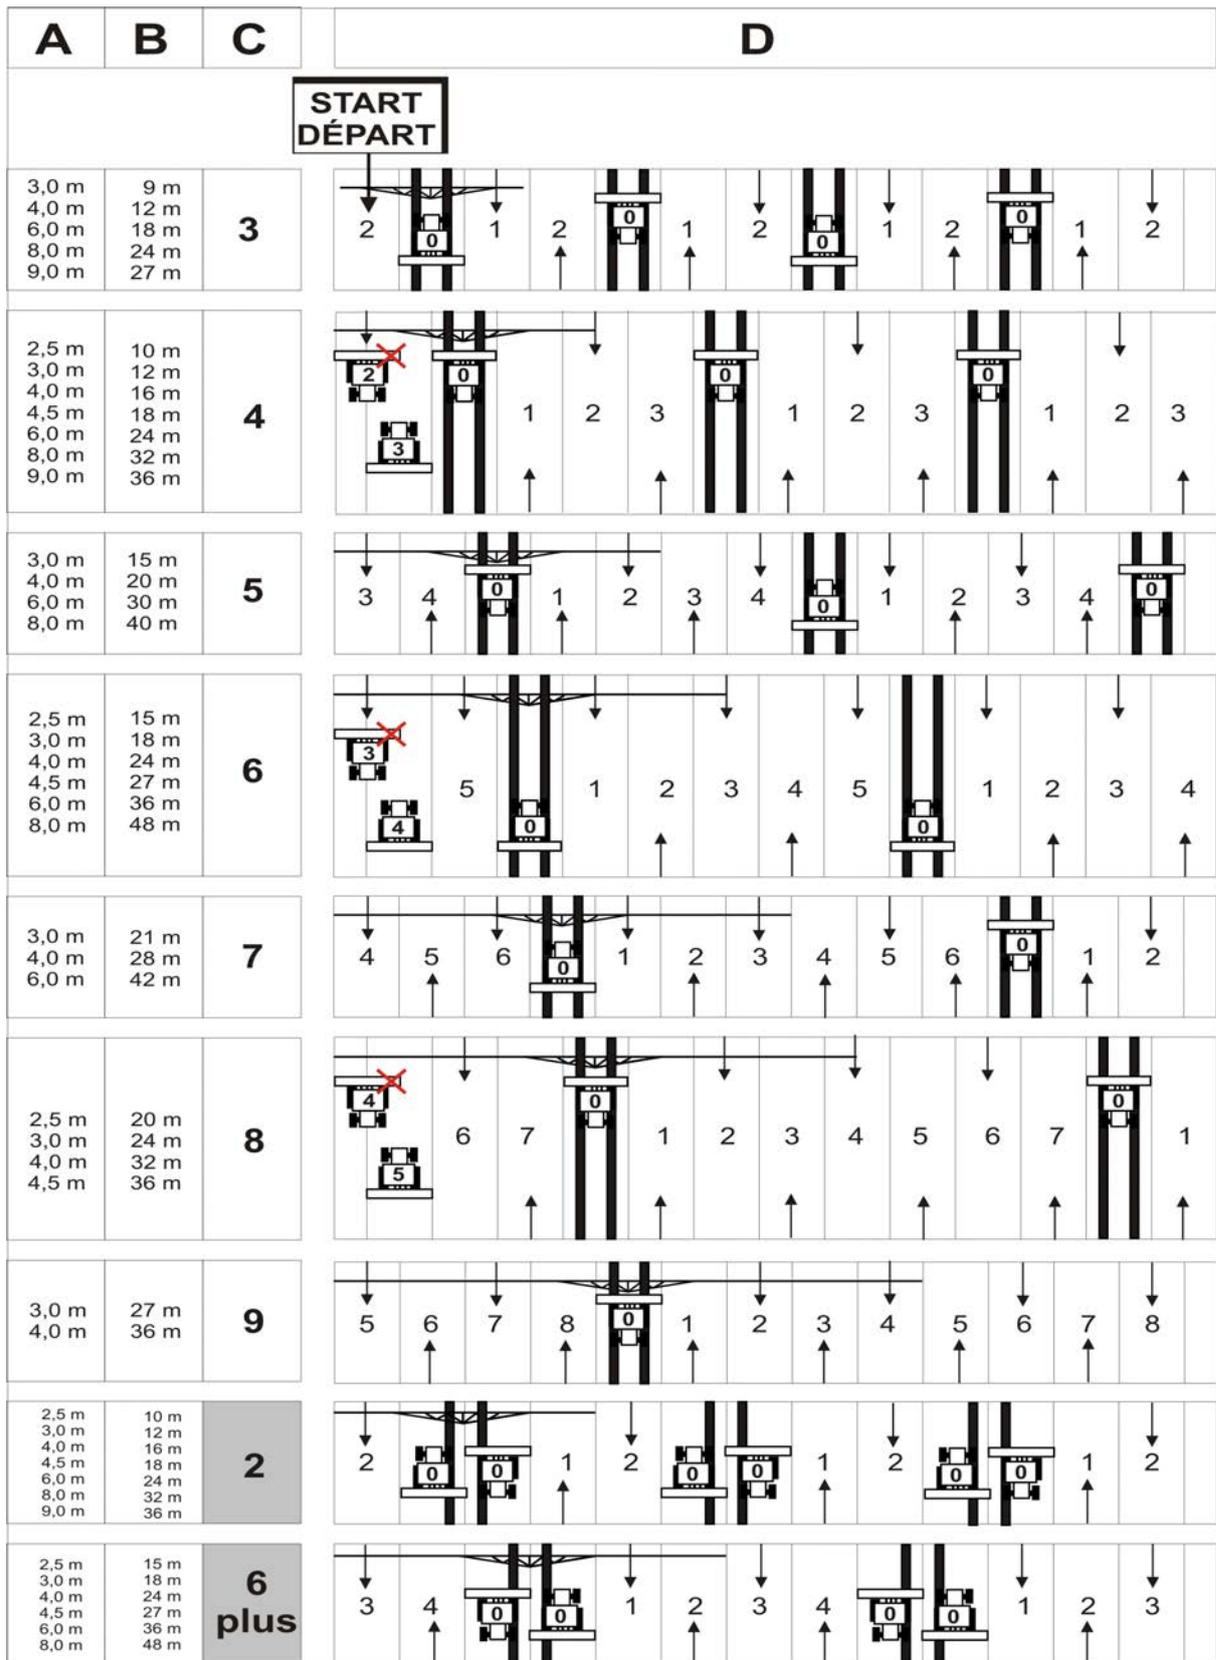

Fig. 68
The creation of tramlines is shown in Figure (Fig. 68) using various examples:
1. Look for the following in the adjacent table (Fig. 68):
Figure (Fig. 68) shows examples for creating tramlines with tramline rhythms 4, 6 and 8.
Figure (Fig. 68) shows examples of tramline creation with tramline rhythms 2 and 6plus.